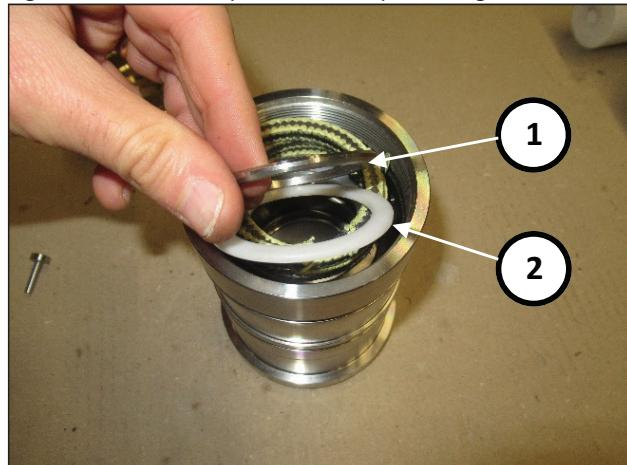

Fig. 171
Remove support ring and anti-extrusion ring (pos. ①②, Fig. 171) to access the pressure seals (pos. ①, Fig. 172).